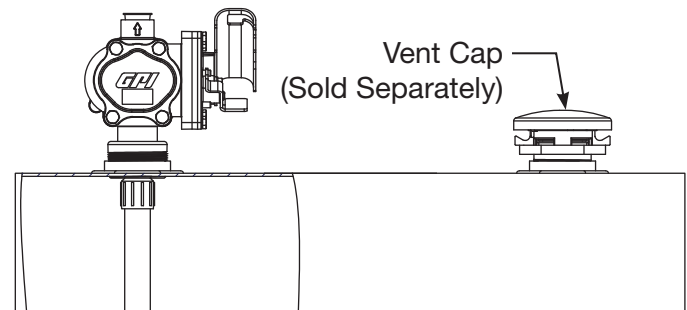

Figure 3
**NOTE: Be sure tank is properly vented (Vent cap sold separately) (Figure 3).**